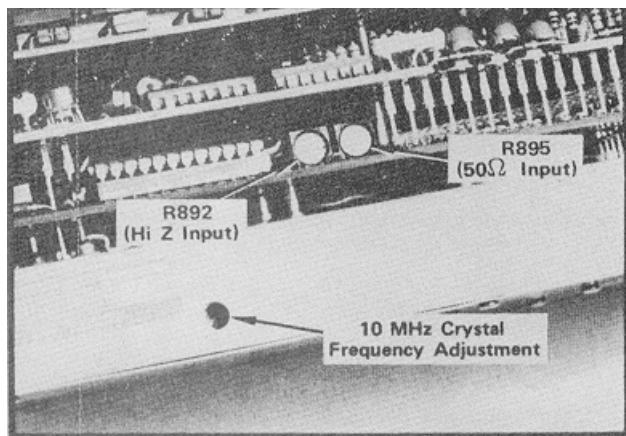

Fig. 4-2. Calibration adjustment locations for the Reference Oscillator and Calibrator.
6. Set the crystal frequency, with the adjustment illustrated in Fig. 4-2, so the calibrator frequency is within specifications.
3. Calibrate the reference oscillator frequency to $10.0000 \text{ MHz} \pm 20 \text{ Hz}$ with the crystal adjustment illustrated in Fig. 4-2.
f. Calibrate the output level of the Calibrator to the reference level, by adjusting R892 (Fig. 4-2).
k. With pin B13 shorted, adjust the calibrator output with R895 (Fig. 4-2) until it equals the reference level of the signal source.